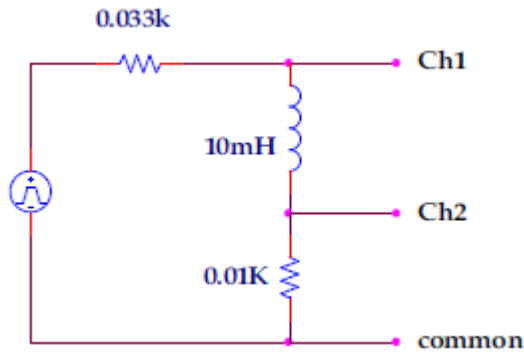

Figure 3
1) Set up the circuit as shown in Figure 3. Then 33Ω resistor is to limit the maximum current reached. Then 10Ω resistor is to display the current waveform on the oscilloscope.